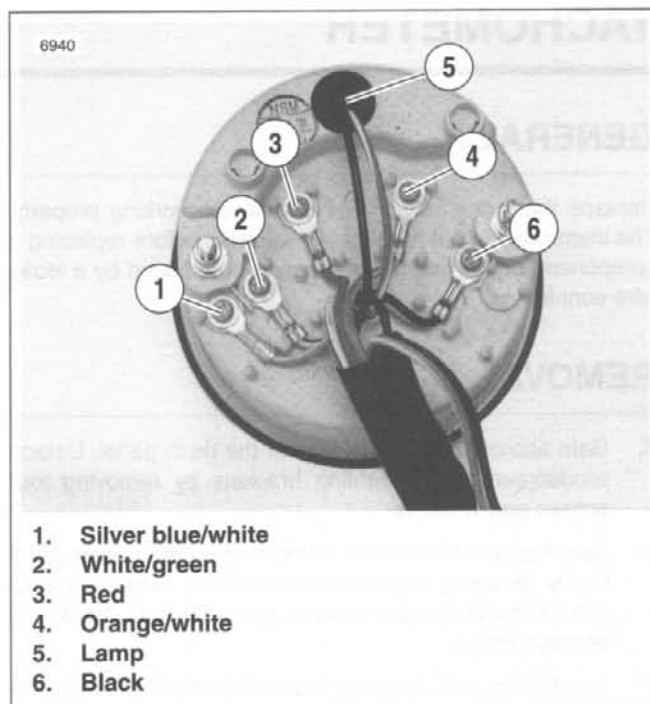

Figure 2-62. Speedometer Wiring
5. Slide speedometer cover (6) away from speedometer.
- a. See Figure 2-62. Remove wires from speedometer, one at a time. After removing each wire, reinstall screw immediately.
- b. Pull lamp (5) from bore.
- c. See Figure 2-62. Insert lamp (5).